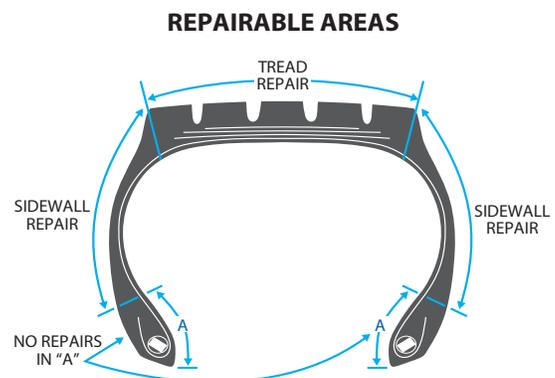

Figure 1
- D. No section repairs may be made in the bead areas where casing penetration or steel cord damage has occurred. Refer to recommended non-repairable dimensions for the appropriate tire bead area (see Area "A", Figure 1).
- A. The extent of repairable areas, where satisfactory "through-the-tire" repairs may be made, are shown above in Figure 1.